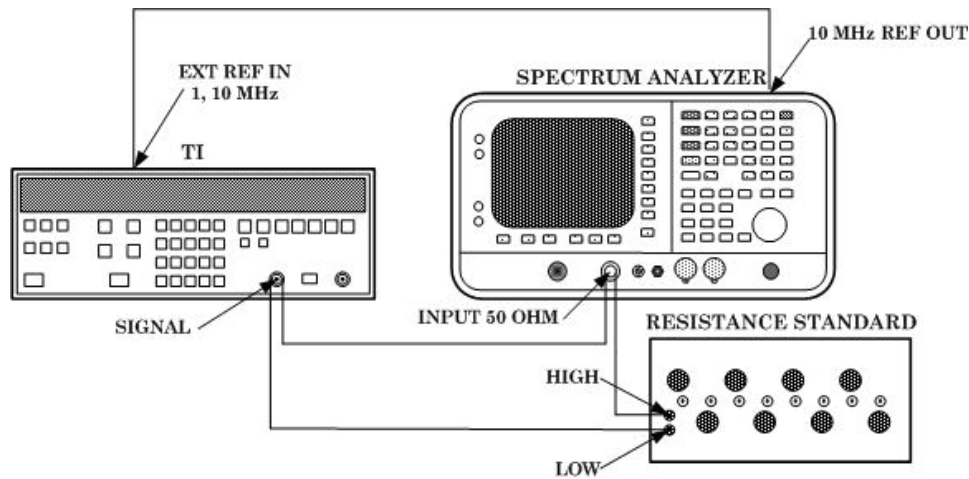

Figure 1. Harmonic distortion - equipment setup.
- (8) Enter **100 kHz** using TI **DATA** keys. Adjust spectrum analyzer controls to display 100 kHz fundamental and at least four harmonics. All harmonics will be at least 60 dB below fundamental.
- (9) Enter **40 kHz** using TI **DATA** keys. Adjust spectrum analyzer controls to display 40 kHz fundamental and at least four harmonics. All harmonics will be at least 65 dB below fundamental.
- (10) Disconnect TI from spectrum analyzer.
- (11) Connect TI **SIGNAL** to audio analyzer **INPUT HIGH** using 50  $\Omega$  feedthrough termination.
- (12) Press keys and enter values using **DATA** keys as listed in (a) through (c) below:
(13) Set audio analyzer to measure distortion in dB. Audio analyzer indication will be  $\leq -65$  dB.
(14) Perform (15) through (19) below for option 002 only.
(15) Connect equipment as shown in figure 1 and set resistance standard to 470  $\Omega$ .